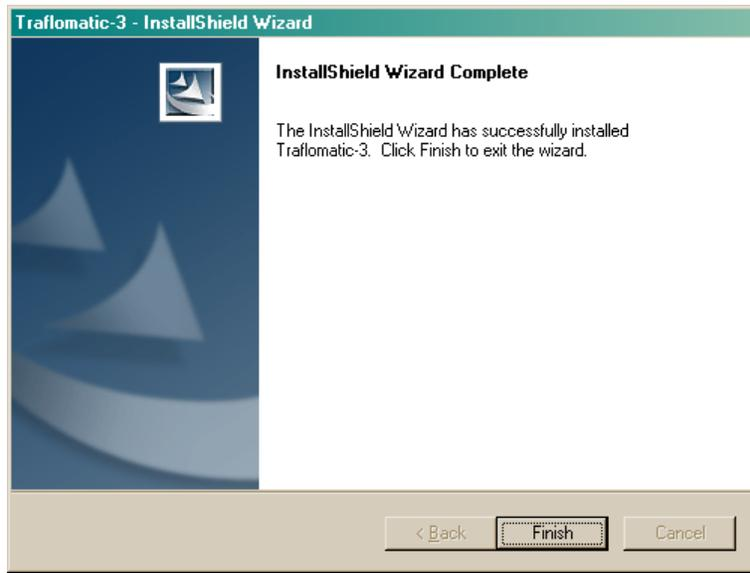

Figure 12
7. After a brief delay another window will appear(Figure 12) informing the user that the FREEDOMWare installation is complete and instructs the user to once again select the Finish pushbutton to complete the FREEDOMWare installation.